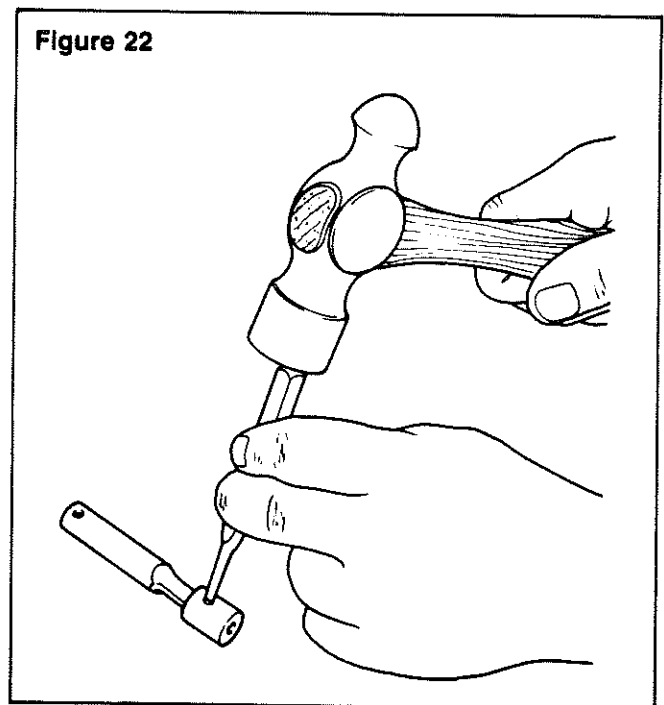

Figure 22
5. Remove the pin from the rod and piston, if necessary. **Figure 22.**